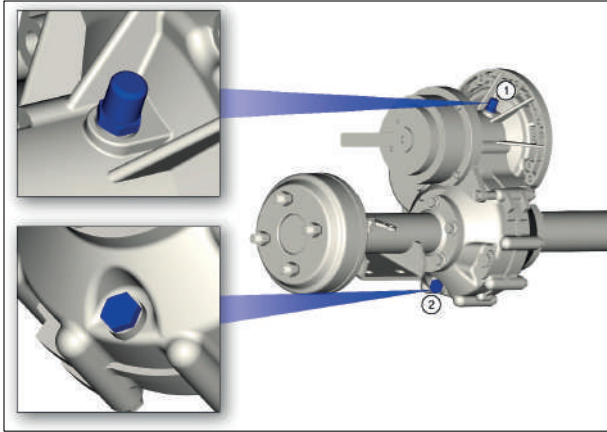

Figure 12-11 Differential oil filler and drain plugs
- The differential oil should be changed every four years. Remove the drain plug indicated with ② to drain the oil (See Figure 12-11)
- If the drain plug indicated with ② (See Figure 12-11) has been removed before adding new oil, it must be mounted first. After the drain plug is mounted, it should be tightened with a torque of 30-32 Nm.
- After oil change, the oil filler plug indicated with ① should be tightened with a torque of 30-32 Nm (See Figure 12-11).